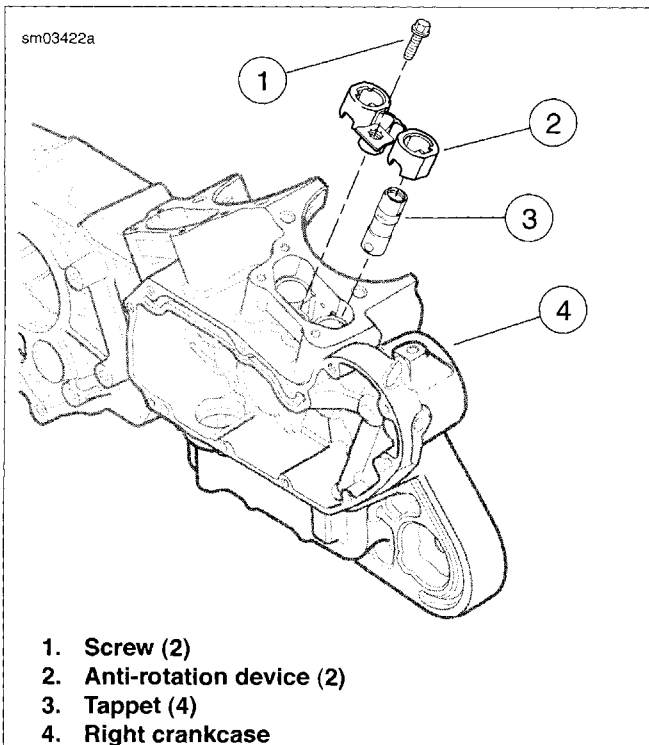

Figure 3-68. Tappet Components
1. See Figure 3-68. Remove screw (1).
2. Remove anti-rotation device (2). Tag anti-rotation device for location (front/rear cylinder) as it is removed.
3. Remove tappet (3). Tag tappet for location (front/rear cylinder) and function (intake/exhaust) as it is removed. This will simplify installation.